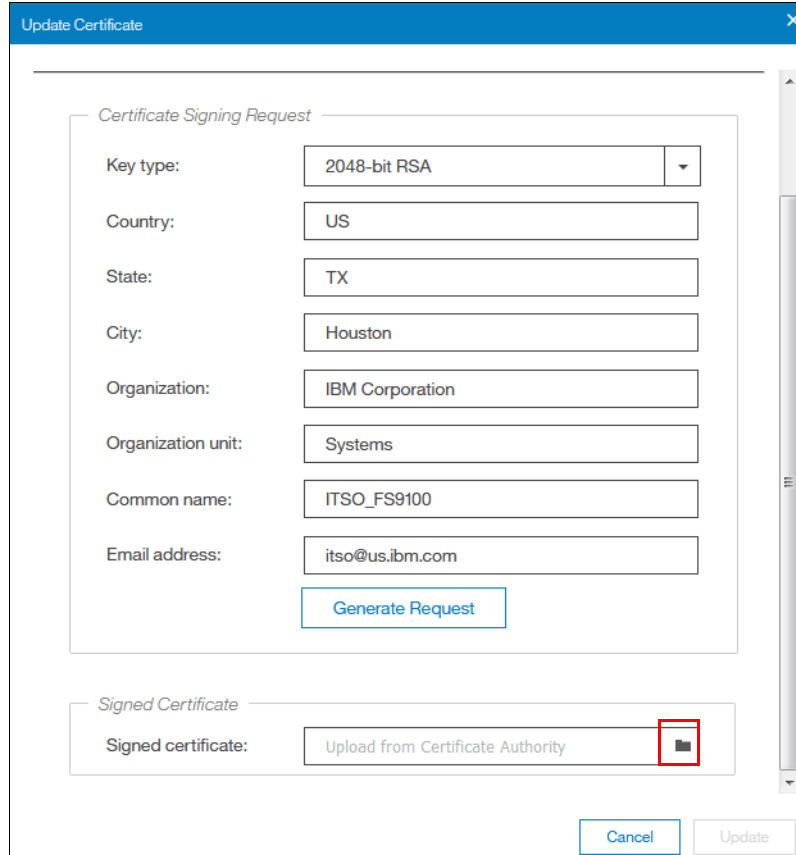

Figure 7-37 Installing a signed certificate
7. Click the folder icon to upload the signed certificate, as shown in Figure 7-37. Click **Update**.